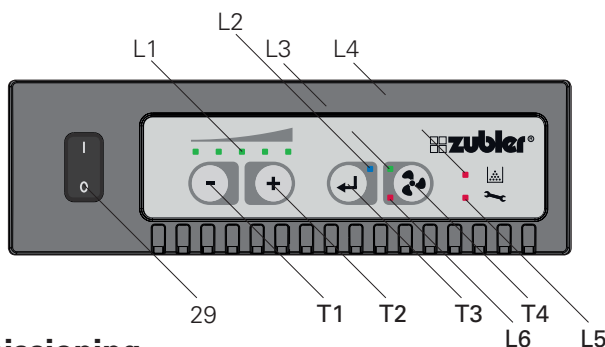

Fig. 13
- Switch OFF the suction unit with main switch 29 (Fig.13)!